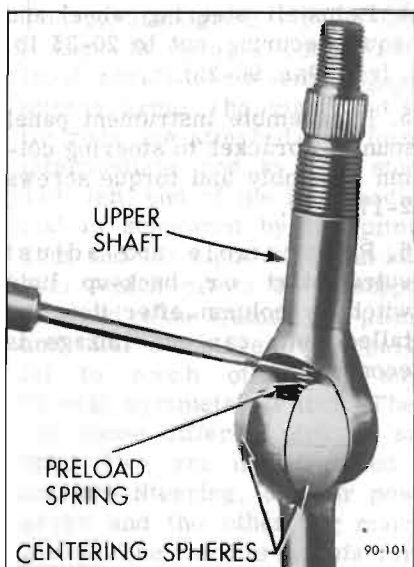

Figure 90-103—Removing Preload Spring
b. Using a narrow blade screwdriver work preload spring out from upper shaft (see Figure 90-103) and remove spring.